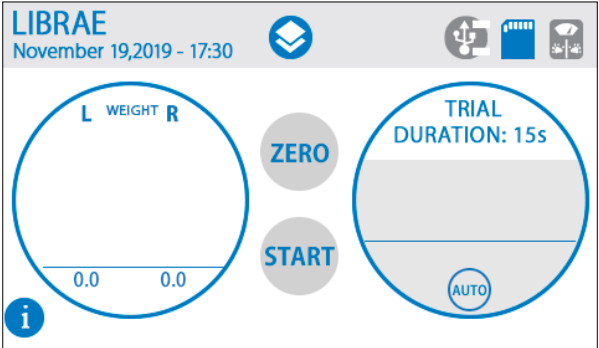

Figure 4.6.2
- 2.2 Autostart Stabilization Threshold: 10%. With this value, Librae considers that the animal is quiet and ready for experiment ONLY IF the NOISE on foot pads is LESS THAN 6g (10% of 60 grams). See Figure 4.6.2 for details.
3. Go to Home Page Menu, and press START button (Figure 4.6.2);